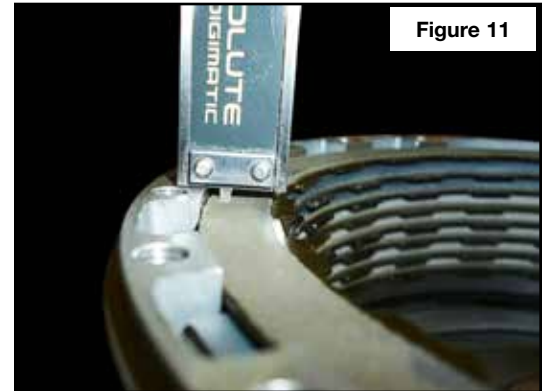

Figure 11
- With the clutch pack installed, measure the clearance from the top friction to the end face of the housing. Measure in multiple locations to ensure an accurate reading. Clearance should be between .050" and .060" (**Figure 11**). Adjust clearance by substituting different thickness steel plates.